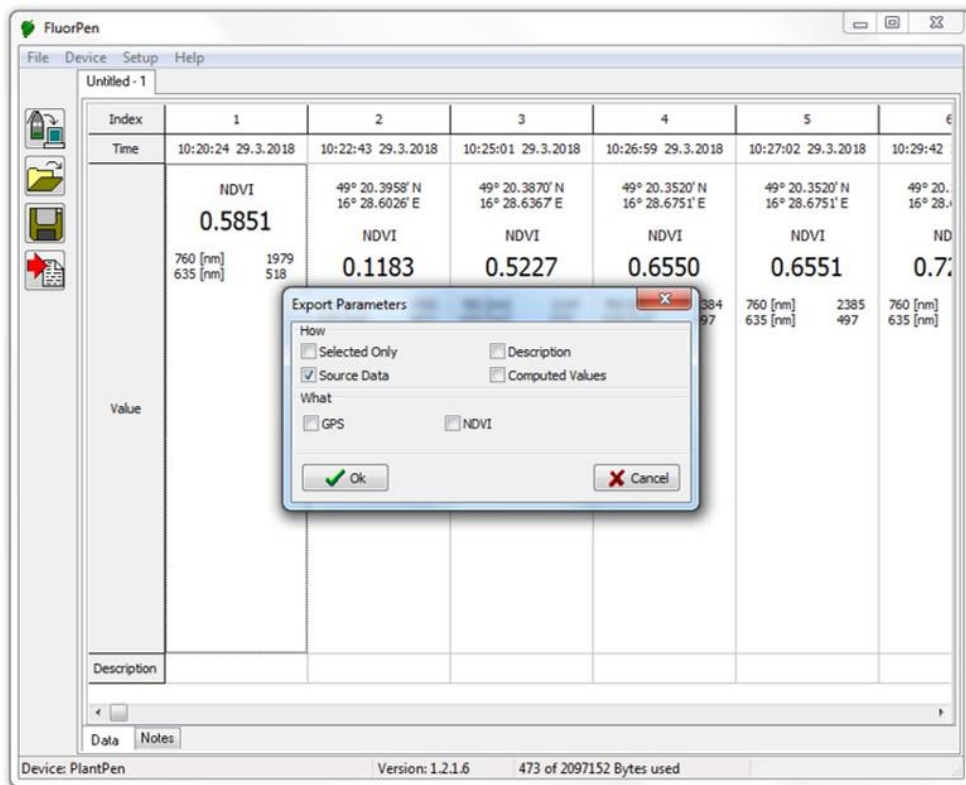

Fig. 17 Data export.
4. For **export** press **File > Export** or **Export** icon, select what you want to export (NDVI or PRI) -Fig. 17.